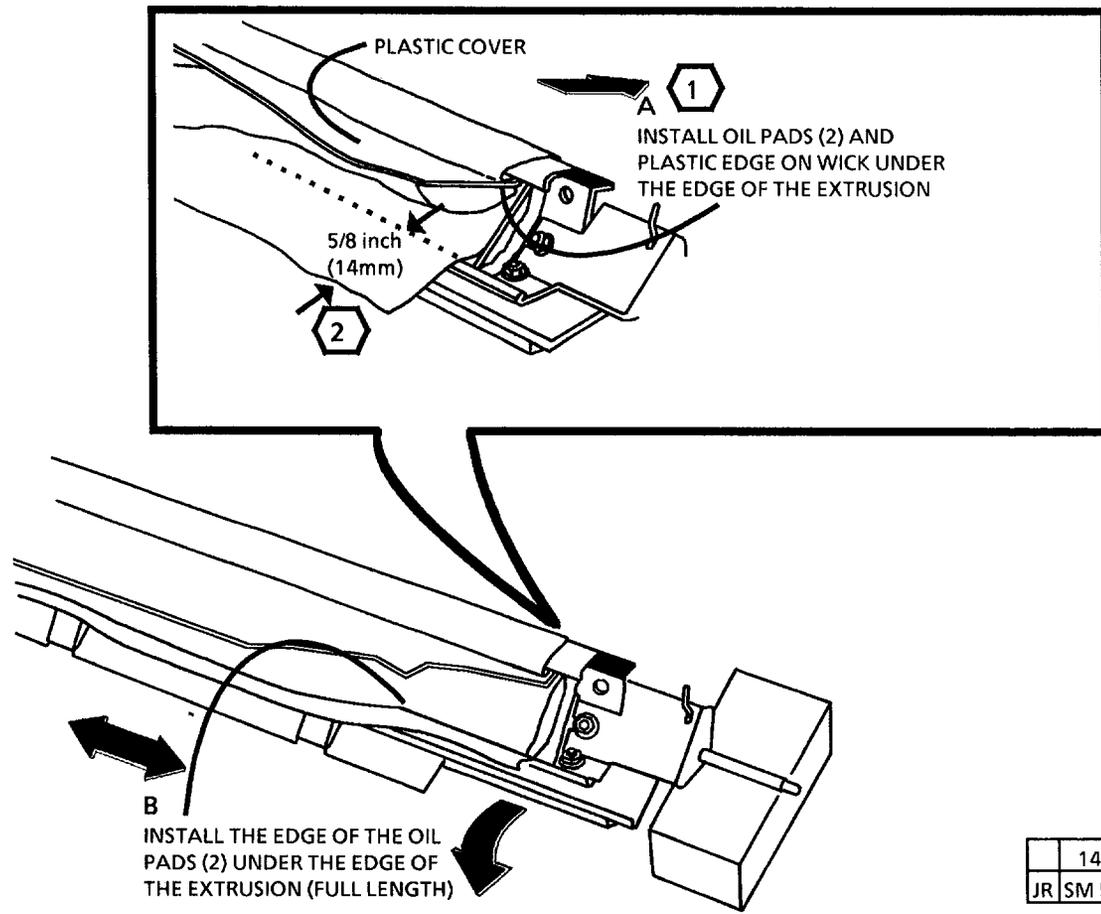

Figure 2. Install the New Oil Pads
1. (FIGURE 2): INSTALL THE NEW OIL PADS.